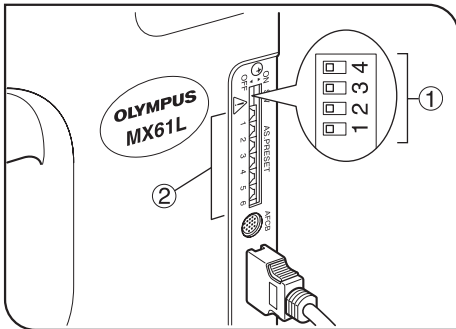

Fig. 30
**14** Setting the DIP Switches and PRESET Switches (Fig. 30)
**DIP Switch Setting (Fig. 30)**
- Ⓞ Set the main switch of the microscope to “○” (OFF) before setting the DIP switch ①.
### AS (Aperture Stop) PRESET Switch Setting (Fig. 30)